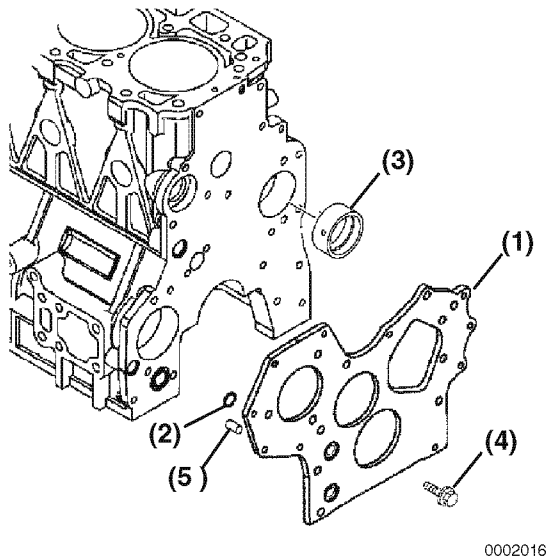

Figure 6-99
6. TNV84 - TNV88: Remove the O-ring (Figure 6-99, (2)) and dowels (Figure 6-99, (5)).